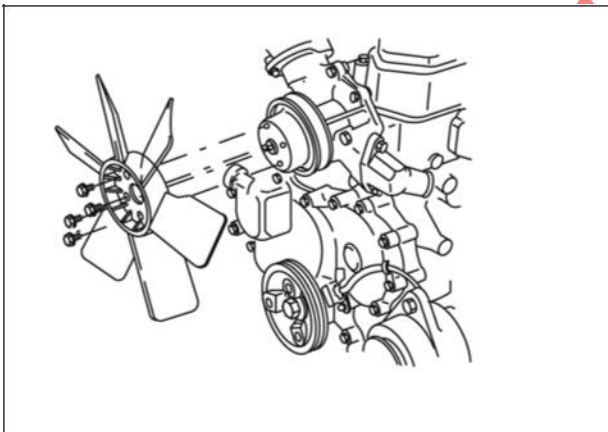

Figure 12
8. Install fan (Figure 12) (if equipped) and water pump pulley. Torque screws to values listed in Section 14 - Engine Specifications.